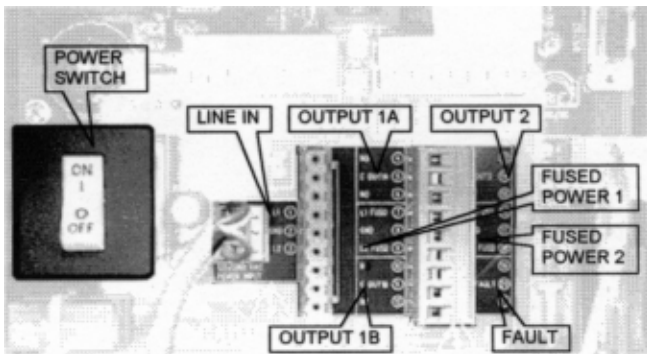
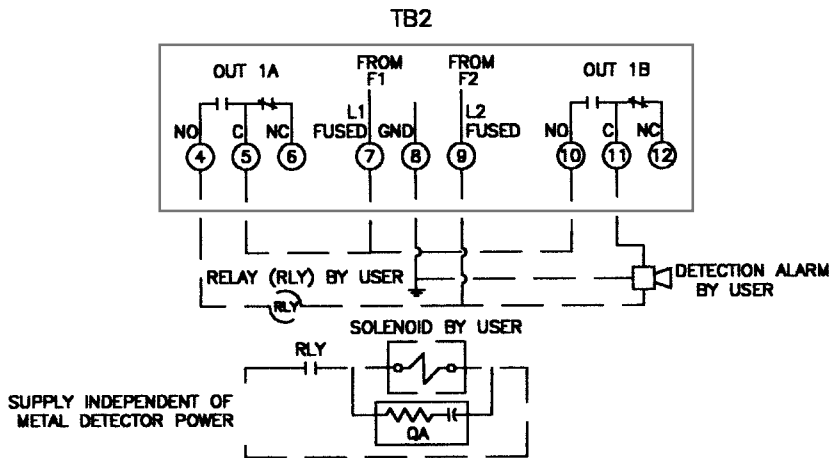

FIGURE 2
FIGURE 5
For installation of a stand-alone E-Z Tec DSP Metal Detector, see Figure 2 and Eriez Drawing 3R9936358 (see Figure 5).
- Make electrical connections within the detector control bay, as shown in Figure 2.